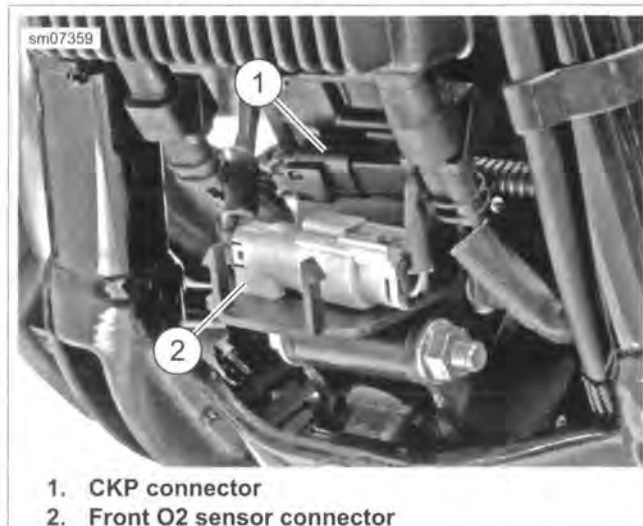

Figure 4-57. Front Electrical Caddy
3. See Figure 4-57. Open front electrical caddy cover and disconnect front O2 sensor connector [138] (2). Remove connector housing from caddy.
17. See Figure 4-57. Connect front O2 sensor connector [138] (2). Close front electrical caddy cover.